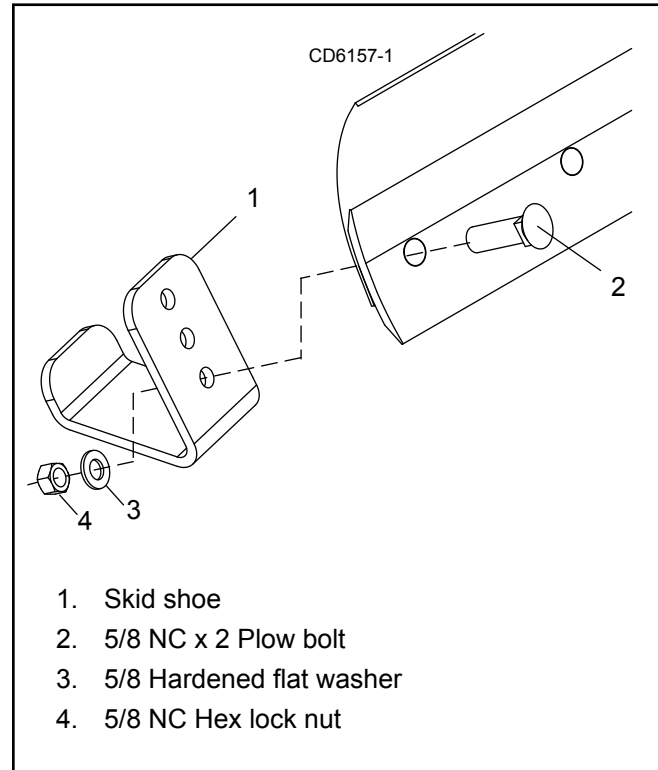

Figure 18. Basic Skid Shoe Installation
2. Place hitch pin (1) through rear blade assembly.
3. Secure with flat washer (2), lock washer (3) and hex nut (4).
4. Repeat for opposite side. See Figure 18.